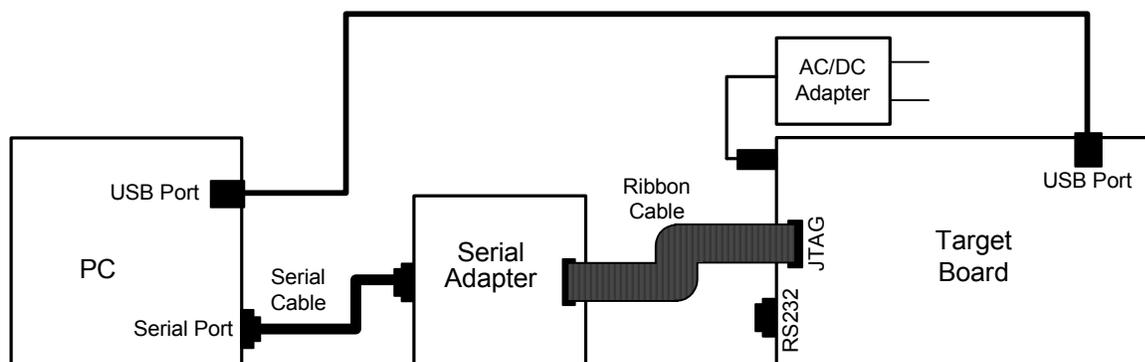
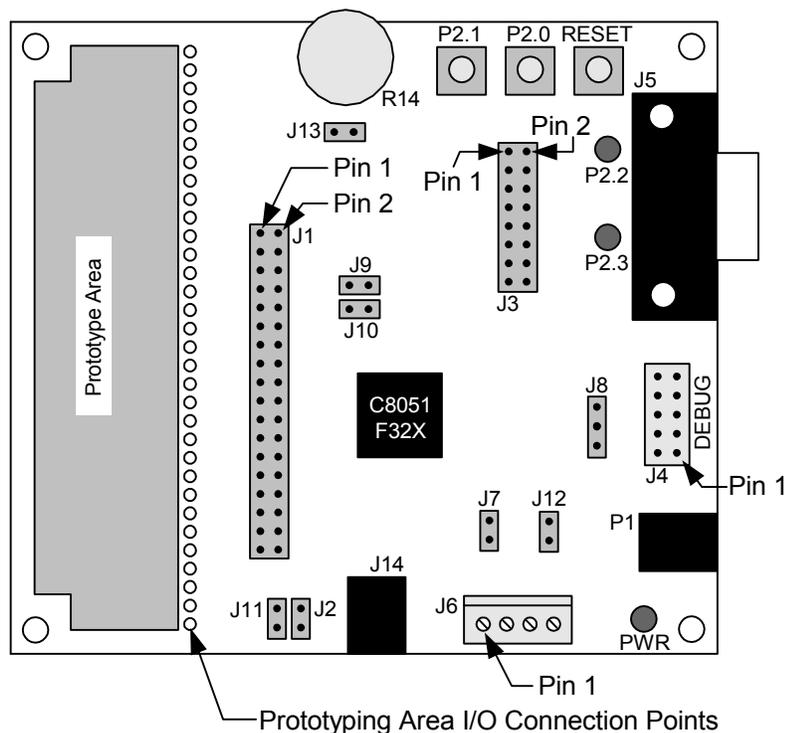

Figure 2. USB Application Hardware Setup
Figure 3. C8051F320 Target Board
1. Connect the USB cable between the host computer and the C8051F320 target board, as shown in Figure 2 on page 6. See Figure 3 on page 7 for the location of the USB connector.
5. See Figure 3 on page 7 for the location of jumpers, LEDs, switches, and potentiometer.
The C8051F32x Development Kit includes a target board with a C8051F320 device pre-installed for evaluation and preliminary software development. Numerous input/output (I/O) connections are provided to facilitate prototyping using the target board. Refer to Figure 3 for the locations of the various I/O connectors.
The 32-pin Expansion I/O connector J1 provides access to all signal pins of the C8051F320 device. Pins for +3 V, digital ground and the output of an on-board low-pass filter are also available. A small through-hole prototyping area is also provided. All I/O signals routed to connector J1 are also routed to through-hole connection points between J1 and the prototyping area (see Figure 3 on page 7). Each connection point is labeled indicating the signal available at the connection point. See Table 3 for a list of pin descriptions for J1.